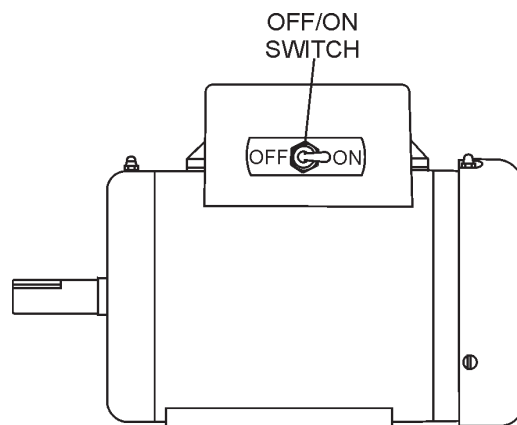

Figure 22. Electric Motor ON/OFF Switch
2. To start the electric motor, move the **ON/OFF** switch to the ON position (Figure 22).